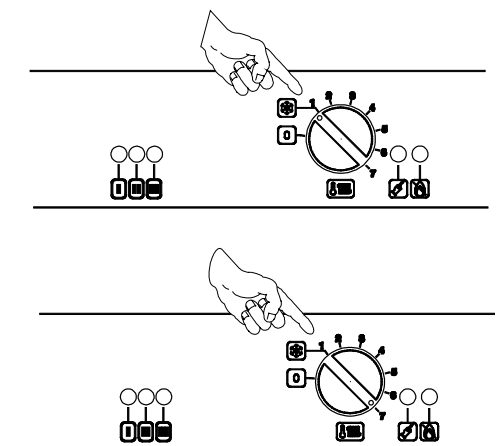

Figure 5.3
- 1 The output temperature of c.h. water is adjustable from a minimum of about 100 °F to a maximum of about 176 °F (Figure 5.3), by turning the knob B